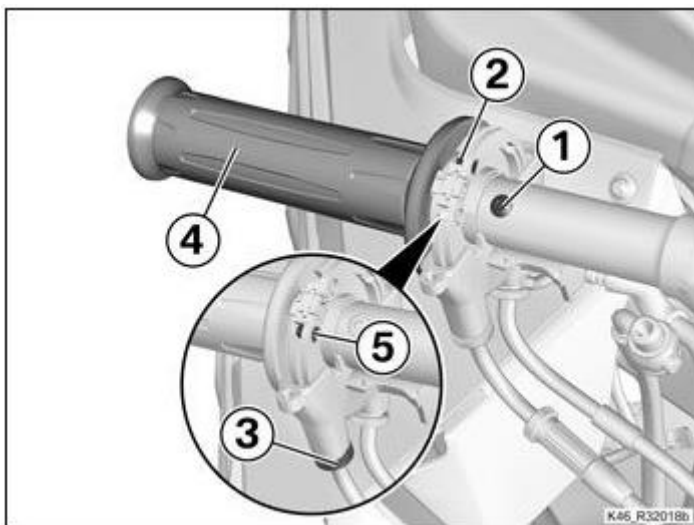

Fig. 11
- Remove the screw (1)
- Hang out the throttle cable (2)
- Loosen the retaining nut (3)
- Move the throttle kit (4) and hang out the throttle cable (5)
- Release the throttlekit (4) from the handle bar (Figure 11)